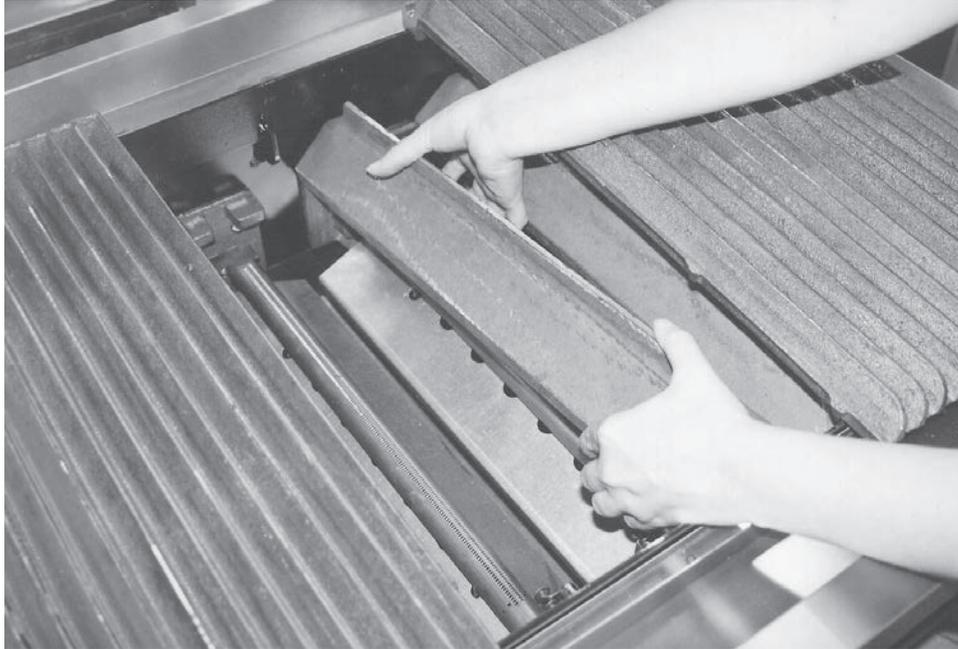

**Fig. 6**
2. Lift the front of the grate up then remove the back end of the grate from the burner box ledge. (Fig. 6)